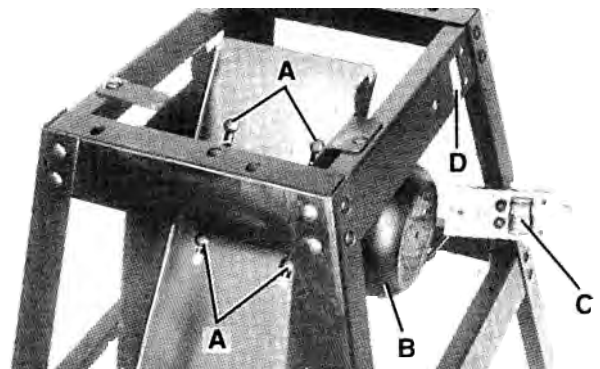
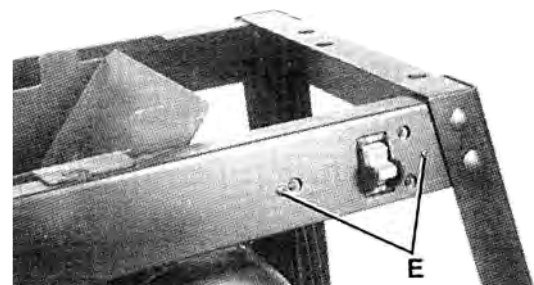

FIGURE 3
FIGURE 4
1. The motor (B) Fig. 3, is assembled to the bottom of the dust chute using the four 1-1/4" long carriage bolts (A), flat washers, lock washers, and hex nuts as shown. Do not completely tighten hex nuts at this time as the motor must be adjusted for proper alignment and belt tension later.
2. Assemble the switch (C) Fig. 3, to the inside of switch opening (D) using the two 3/8" long screws (E) Fig. 4, and flat washers as shown.